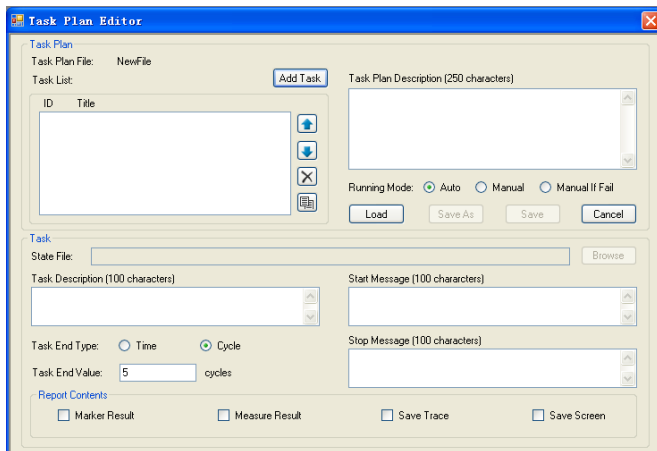

Figure 2. Task plan editor
- Click "Instruments" then "Task Plan Editor" to open the task plan editor as shown in Figure 2